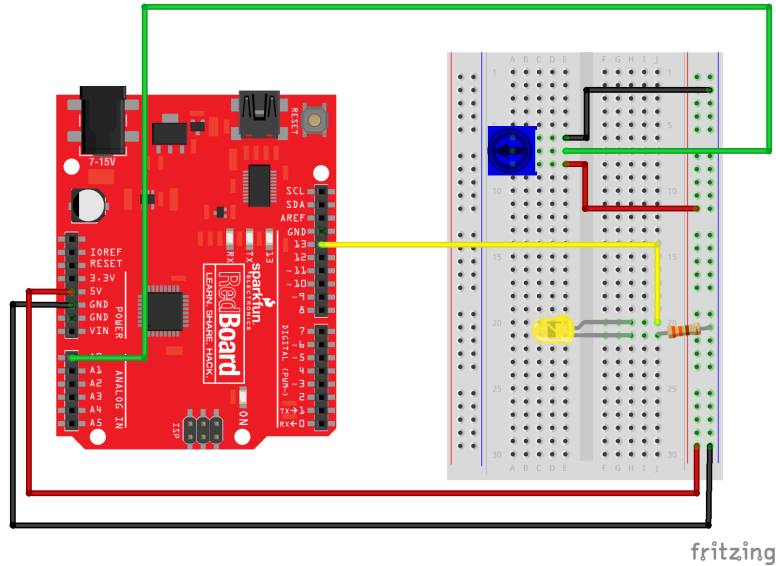

Figure 5: Fritzing diagram for adding a potentiometer. Be sure to move the LED wire to pin 11.
1. Unplug your Arduino and build the circuit shown in Figure 5. The six analog pins, A0..A5 are used for reading analog voltages using the function `analogRead(<pin>)`